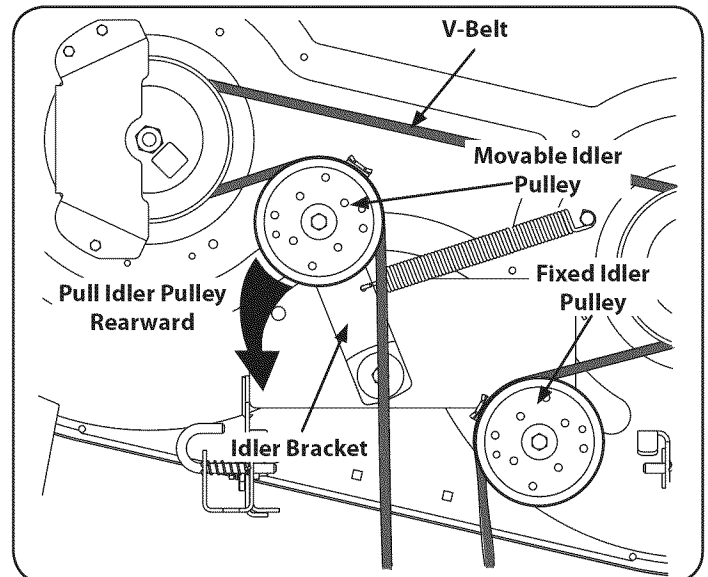

Figure 37
- b. Working from the middle of the riding mower, pivot the idler bracket and movable idler pulley rearward away from the backside of the 'V' belt just far enough to lift the belt up and over the idler pulley. See Figure 37.
7. Raise the deck lift arms out of the rear hanger bracket slots by raising the deck lift handle on the riding mower to its highest position. Refer to Figure 37.
- c. Route the backside of the belt around the fixed idler pulley of the deck. Refer to Figure 37.
- d. Working from the middle of the riding mower, pivot the idler bracket/movable pulley rearward against the spring tension and slide the backside of the belt onto the movable idler pulley. Refer to Figure 37.
- d. Pull the right side of the belt rearward and place the narrow V side of the belt into the PTO pulley. See Figure 37.